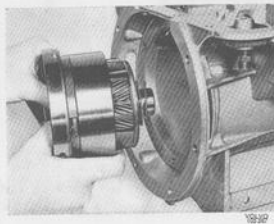

Fig. 4-114. Installing center support and planet gears with needle thrust bearing and plate washer
7. Assemble the planet gear, one-way clutch and center support, see Fig. 4-114. Stick the thrust plate and needle thrust bearing to the planet cover with vaseline.